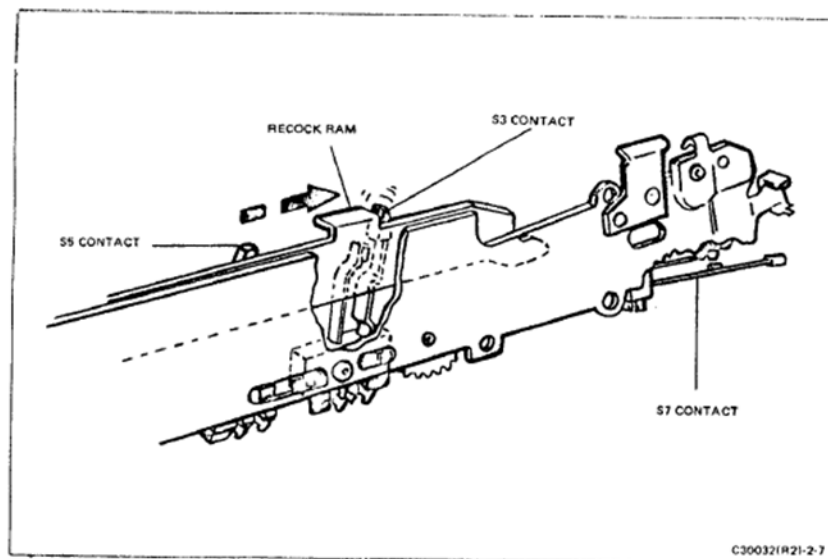

FIGURE 2-7 S3 BEING OPENED BY RECOCK RAM
c. Switch S3, normally closed at the beginning of the exposure cycle is opened by the recock ram located in the gear train assembly. See Figure 2-7. As the exposure sequence begins, S3 opens and actuates a delay circuit (Y delay) in the EMC which retards the start of the actual exposure approximately forty milliseconds so that mirror bounce will have subsided before a picture is taken. At the end of the delay time, the shutter starts to open and the electronic timing function (integration) takes place. If a flash circuit is inserted into the FFA (S2 closed) an additional flash delay circuit is activated to insure that the exposure gets full effect of the light derived from the flash. At the end of the exposure cycle when the Fresnel carrier moves down into viewing position, S3 closes as the recock ram moves away. It is now reset for the next camera cycle.
e. Switch S5 (normally closed at the beginning of the exposure cycle), like S3, is located in the gear train and actuated by the recock ram (Figure 2-7). When the gear train rotates to the appropriate point in its cycle, S5 opens and removes power from the drive motor, applying dynamic braking voltage to stop the gear train quickly. The ECM reacts to this command in such a way that the exposure cycle continues completion even though the operator has released the exposure button (S1). After exposure and when the fresnel carrier returns to the